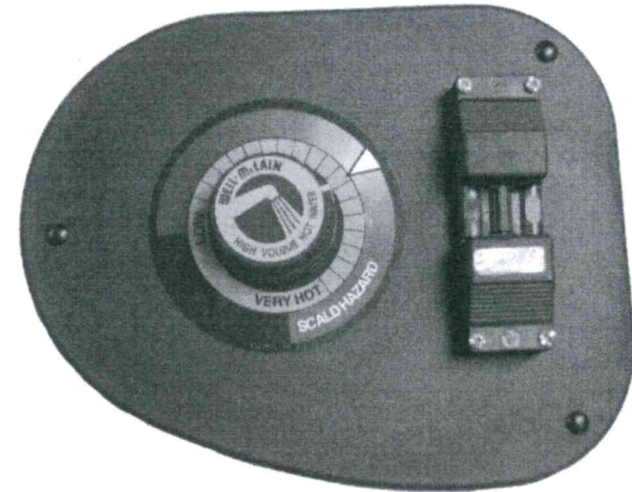

FIGURE 1
5. Trace the thermostat wires back to the snap-set terminal strip mounted on the plastic cover. Remove the two (2) Phillips screws securing the cover on the snap-set connector to expose the wire connections.
7. Remove the two (2) screws connecting the old thermostat to the plastic cover.
9. Apply the new temperature setting label over the existing one as seen in **Figure 1**.
10. Attach the new thermostat to the cover with the two (2) Phillips screws. It must be oriented with the capillary tube under the "Scald Hazard" text.
- NOTE** - If replacing a two (2) wire thermostat use the terminals marked "1" and "C" on the new thermostat.
13. Replace connection cover with two (2) Phillips headed screws.